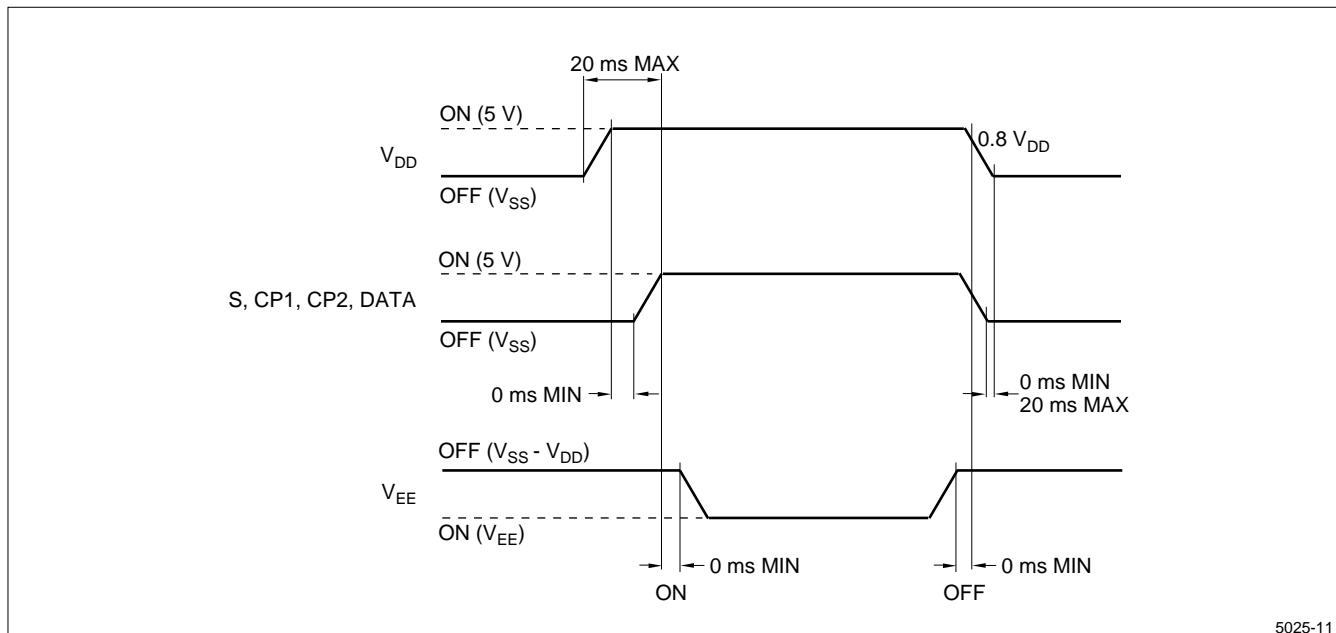

Figure 11. Power ON/OFF Sequence
- The response characteristics of photodetector output are measured as shown in Figure 7, assuming that input signals are applied to select and deselect the dots to be measured, in the optical characteristics test method shown in Figure 11.
- The unit should be driven according to the specified ratings to avoid malfunction or permanent damage. DC voltage drive leads to rapid deterioration of LC, so ensure that the drive is alternating waveform by continuous application of the signal M. Avoid latch-up of driver LSIs and application of DC voltage to the LCD panel by following the ON/OFF sequence shown in Figure 11.